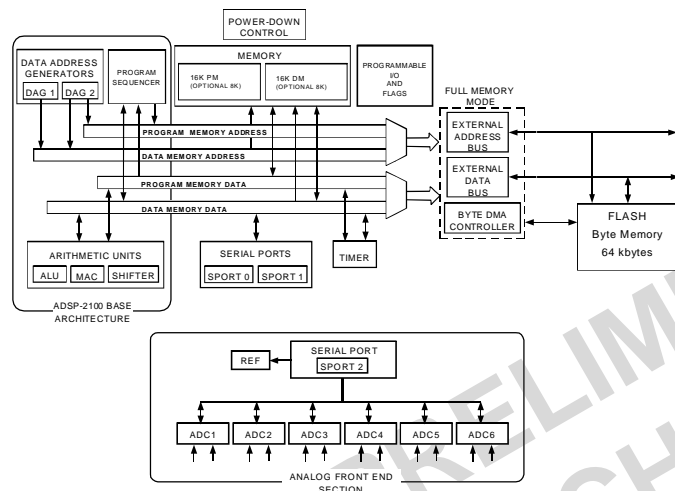

Figure 1. Functional Block Diagram
Figure 1 is an overall block diagram of the AD73560. The processor section contains three independent computational units: the ALU, the multiplier/accumulator (MAC) and the shifter. The computational units process 16 bit data directly and have provisions to support multiprecision computations. The ALU performs a standard set of arithmetic and logic operations; division primitives are also supported. The MAC performs single-cycle multiply, multiply/add and multiply/subtract operations with 40 bits of accumulation. The shifter performs logical and arithmetic shifts, normalization, denormalization and derive exponent operations. The internal result (R) bus connects the computational units so that the output of any unit may be the input of any unit on the next cycle. A powerful program sequencer and two dedicated data address generators ensure efficient delivery of operands to these computational units. The sequencer supports conditional jumps, subroutine calls and returns in a single cycle. With internal loop counters and loop stacks, the AD73560 executes looped code with zero overhead; no explicit jump instructions are required to maintain loops. Two data address generators (DAGs) provide addresses for simultaneous dual operand fetches (from data memory and program memory). Each DAG maintains and updates four address pointers. Whenever the pointer is used to access data (indirect addressing), it is post-modified by the value of one of four possible modify registers. A length value may be associated with each pointer to implement automatic modulo addressing for circular buffers.